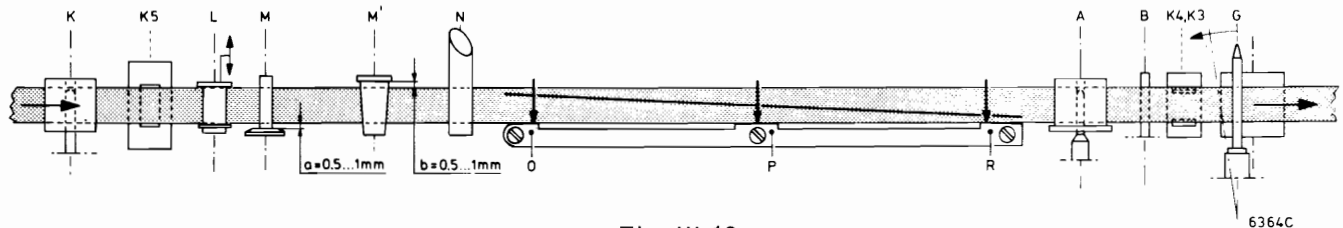

Fig. III-18
The drum ruler (with cams O, P and R) (Fig. III-18) has been accurately factory-adjusted.
- Cassette roller spindles A and K (Fig. III-18,19). If necessary, these spindles can be adjusted with bending tube 4822 395 80151. This tube has a hole on both ends. The largest hole serves for spindle A and the other hole for spindle K. Slide the tube over the spindles as far as possible but be sure that the tube does not touch the chassis.
- Check if tape guide M' is adjusted low enough. The distance a (see Fig. III-18) must be 0.5...1 mm.
- Check if tape guide M is adjusted high enough. The distance b (see Fig. III-18) must be 0.5...1 mm.
In Fig. III-18, arrows indicate the spots on the cams O, P and R where, with a mirror, should be checked if the tape touches the cams correctly.